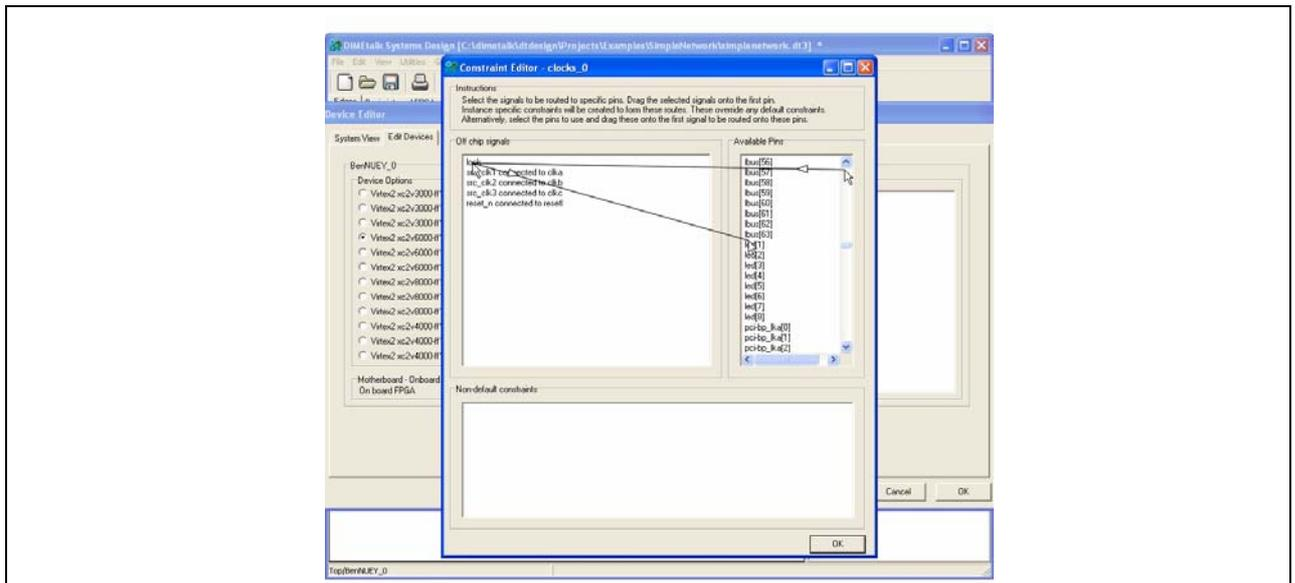

Figure 47: 'lock' signal dragged to 'led[1]' pin
5. Scroll down the list of available pins on the right hand side until the set of LEDs appears. Drag the 'lock' signal onto the 'led[1]' pin as shown in Figure 47.